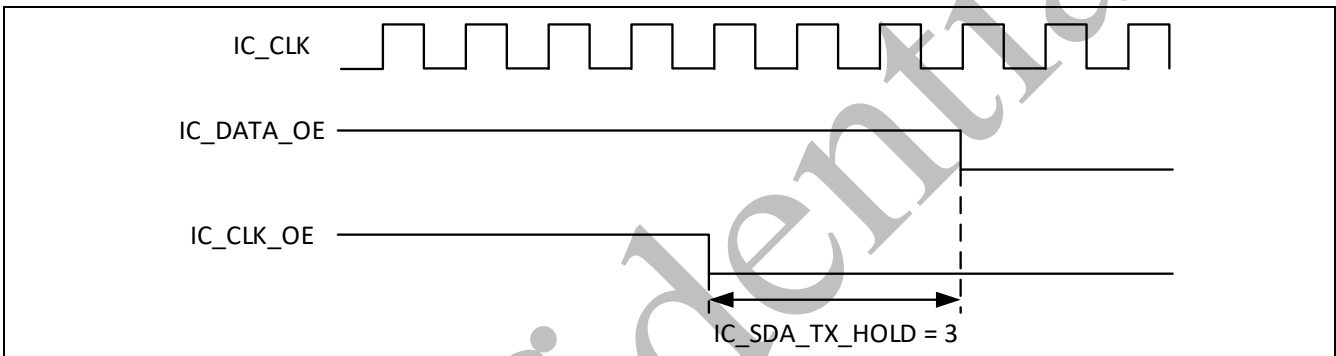

Figure 3-85 I2C Master Implementing tHD:DAT with IC_SDA_HOLD = 3
- Figure 3-85 shows the tHD:DAT timing generated by the I2C operating in Master Mode when IC_SDA_TX_HOLD = 3.